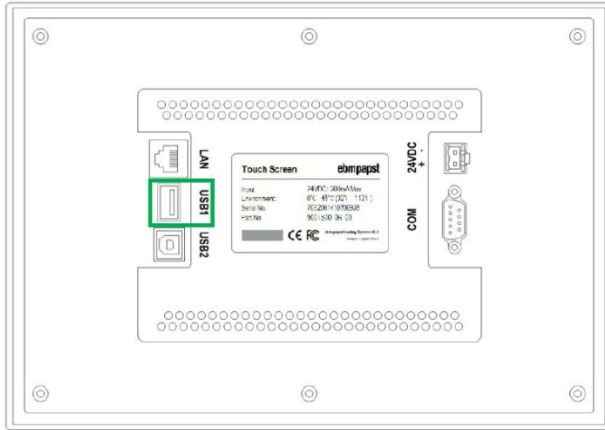

Figure 13
1. With touchscreen power off, insert the USB flash drive into the USB 1 port. (fig. 13)